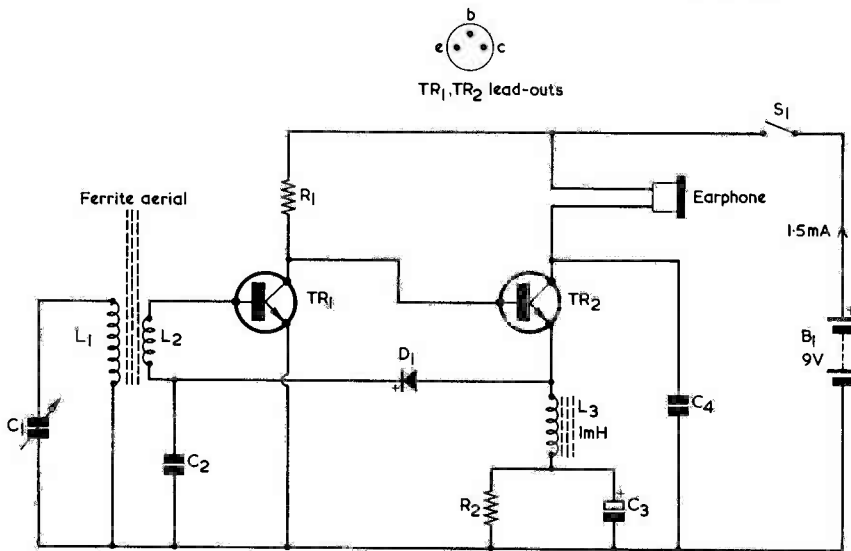

Fig. 1. The basic circuit of the reflex transistor receiver. A magnetic earphone is used. Note the economy in components
THE TWO-TRANSISTOR REFLEX RECEIVER WHOSE circuit is given in Fig. 1 was designed with simplicity and component economy in mind, but performance has not been sacrificed. In fact, the sensitivity is much greater than that of most two-transistor receivers. The measured sensitivity of the prototype, *without using any reaction*, was about 20dB better than the sensitivity of a conventional two-transistor reflex receiver using an OC44 and an OC71. The current consumption is low—about 1.5mA.
Front view of a receiver made up to the circuit of Fig. 1 and incorporating a volume control
*For regeneration to occur with the capacitive coupling, the upper end of L_1 in Fig. 1 should be in anti-phase with the end of L_2 which connects to TR_1 base. This differs from the coil phase relationship apparent in the diagram, which is primarily intended to illustrate the basic operation of the receiver circuit. If satisfactory regeneration does not occur at the first attempt, try reversing the connections at L_2 . Editor.